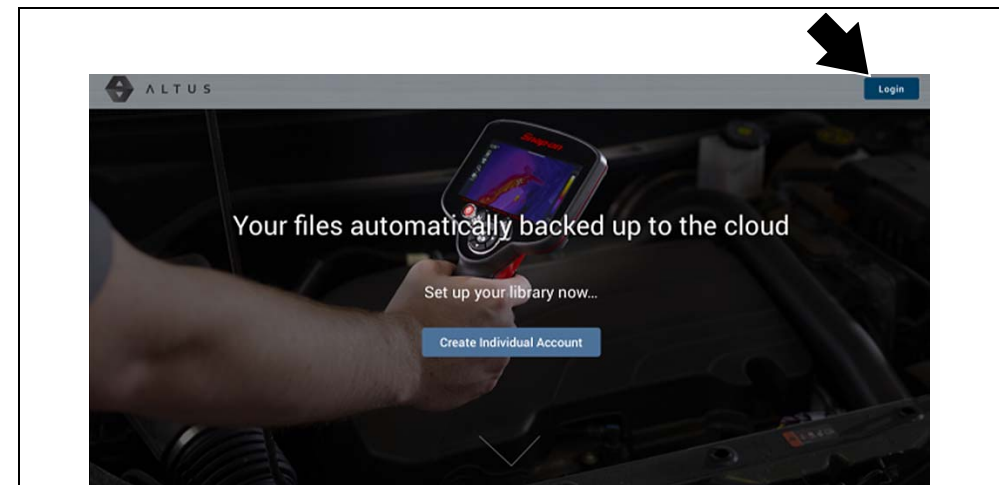

Figure 16-4
2. Select the **Login** icon (Figure 16-4).